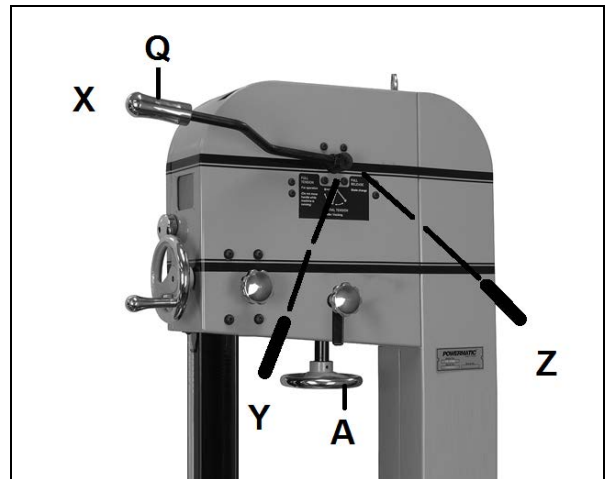

Fig 37
Blade tension is set with the blade tension handwheel (A, Fig 37).
To operate the machine, place the quick blade tension lever (Q, Fig 37) in the Full-Tension position (X).